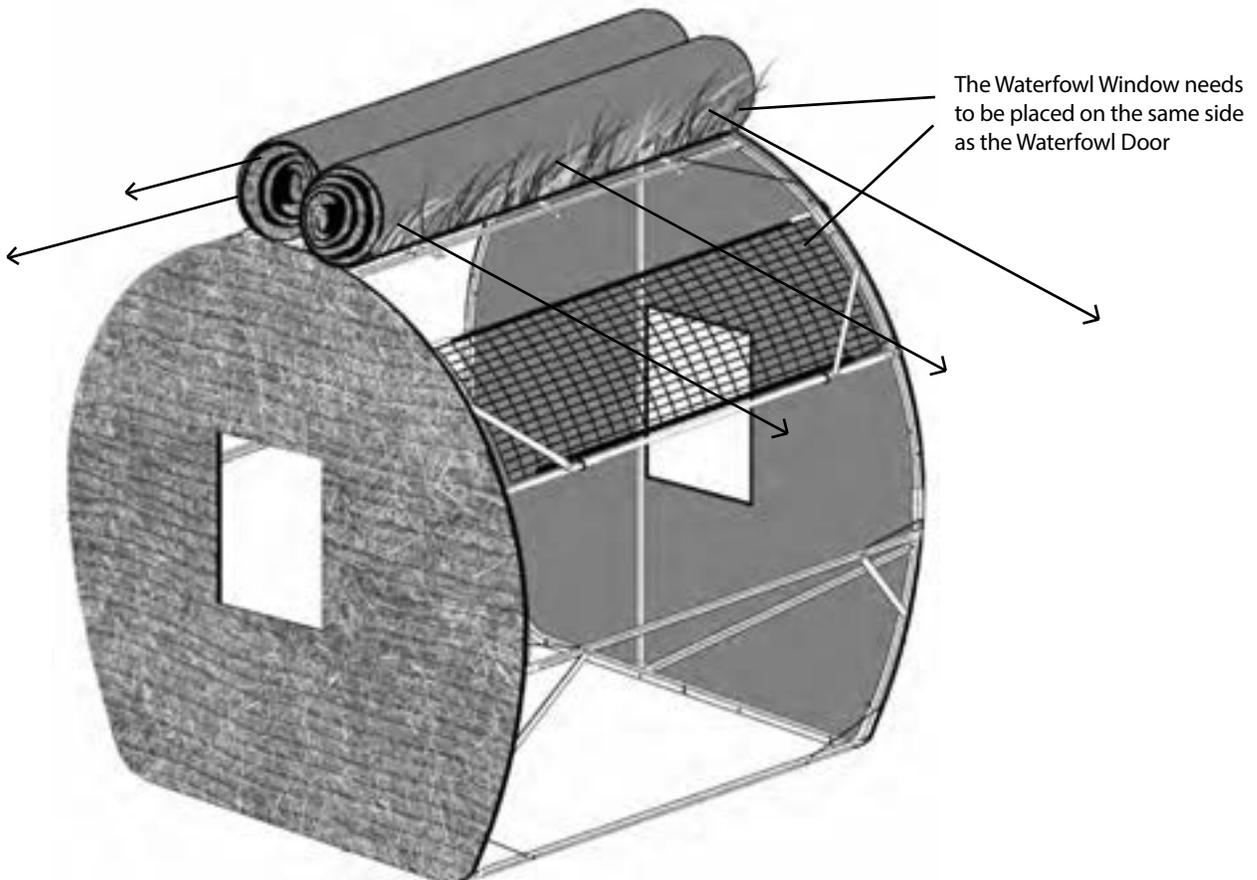

Figure 29.1
STEP 20: Locate the (1) COVER BLANKET "P" that will be installed over the remaining bale blind frame. Keeping the COVER BLANKET "P" rolled-up in it's double curl configuration, place it on top of the bale blind frame at the center-most SIDE BRACE SUPPORT "E", making sure the Waterfowl Window is on the same side as the Waterfowl door, as illustrated in Figure 29.1. Then simply unroll each end, allowing the COVER BLANKET "P" to lay over the frame.